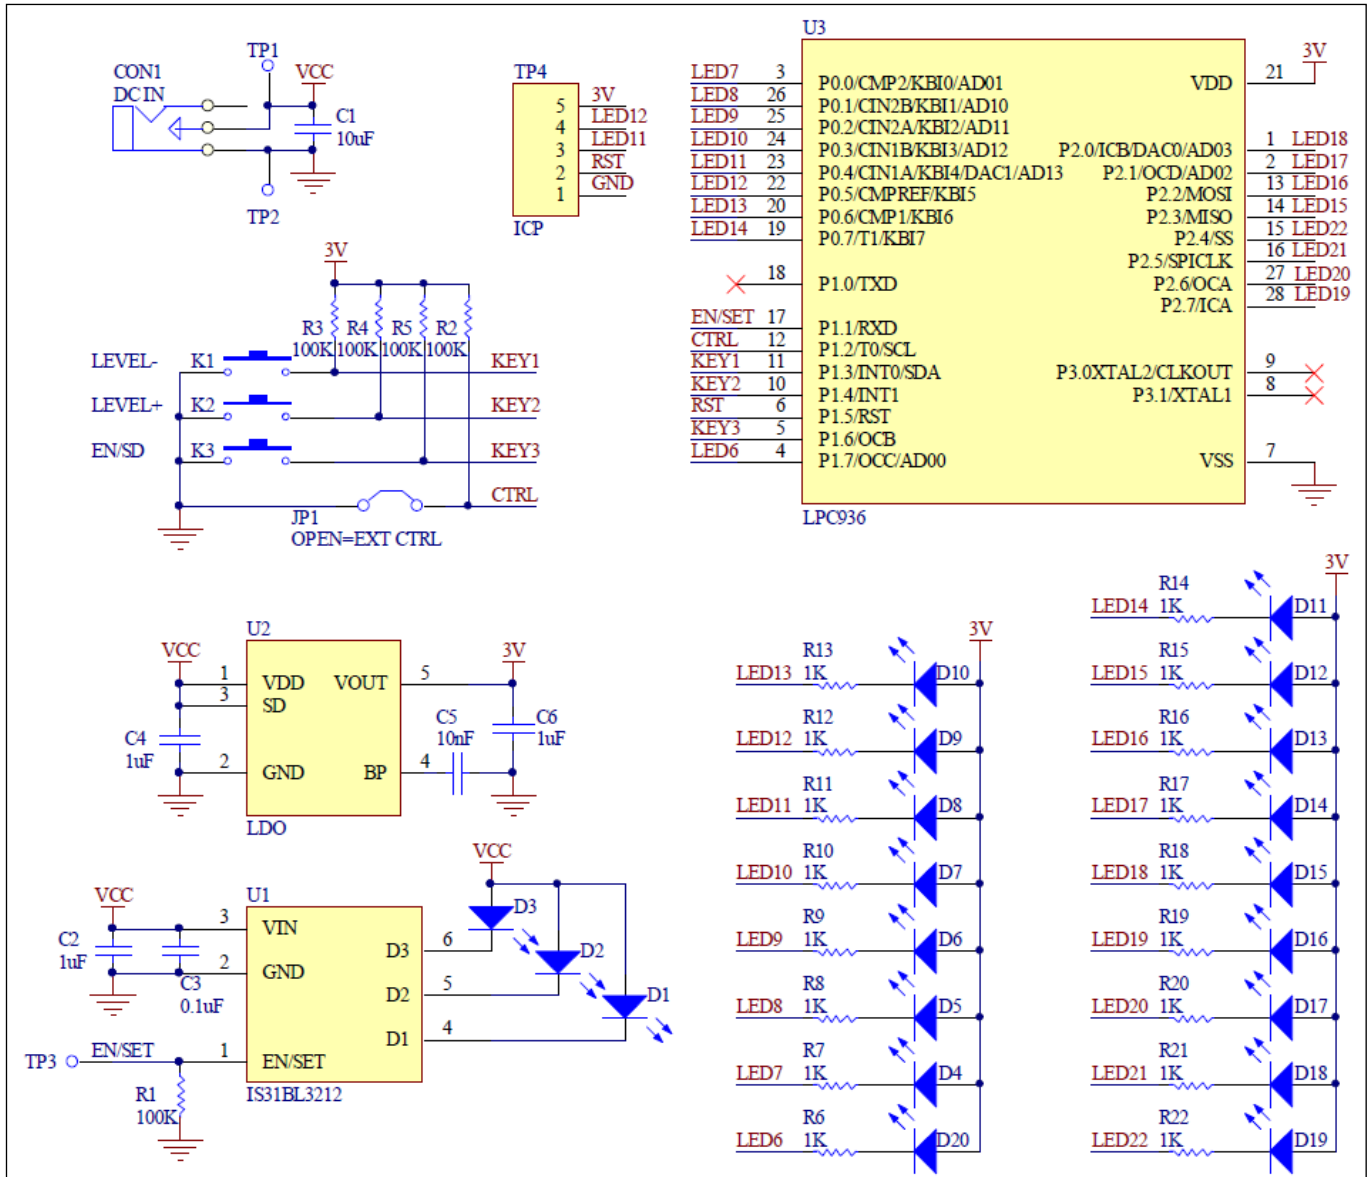

Figure 2: IS31BL3212 Application Schematic
*Bill of materials, refer to Figure 2 above.*